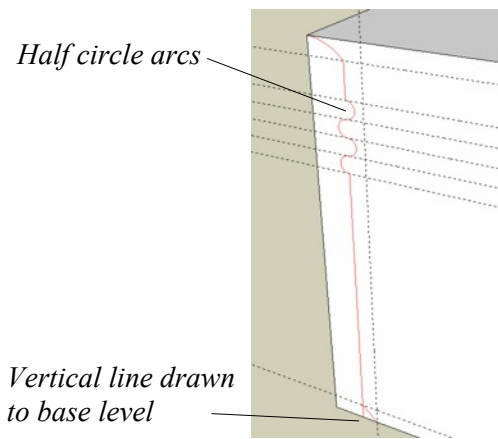

Figure 81. The profile of the bollard shown in red
- Draw in the profile of the bollard as shown in Figure 81 (shown in red for clarity only).
- For the protrusions and indentations use the Arc command again to form half circles as shown in Figure 81.
- Ensure that the vertical line from the lowest indentation reaches the base level as shown in Figure 81.